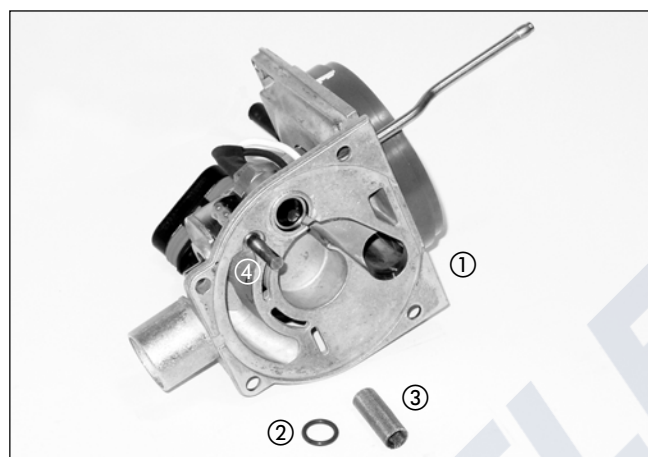

Fig. 7
**Remove plug filter** (fig. 7 and diagram 4)
**Remove socket** (fig. 7 and diagram 4)